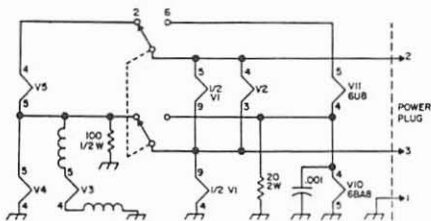

Fig. 1. Rewiring of the Two'er filaments.
Fig. 1. The station control unit. RR1 changes bands each time the paddle switch is pushed to the left, RR2 changes channel setup in either band when paddle switch is pushed to the right. Lamps in lower LH corner of the schematic indicate which of four channel tuning schedules is in effect.
- 2) Wire the Two'er filaments (as shown in Fig. 1) to the switch. The 6 meter filaments will be added later.